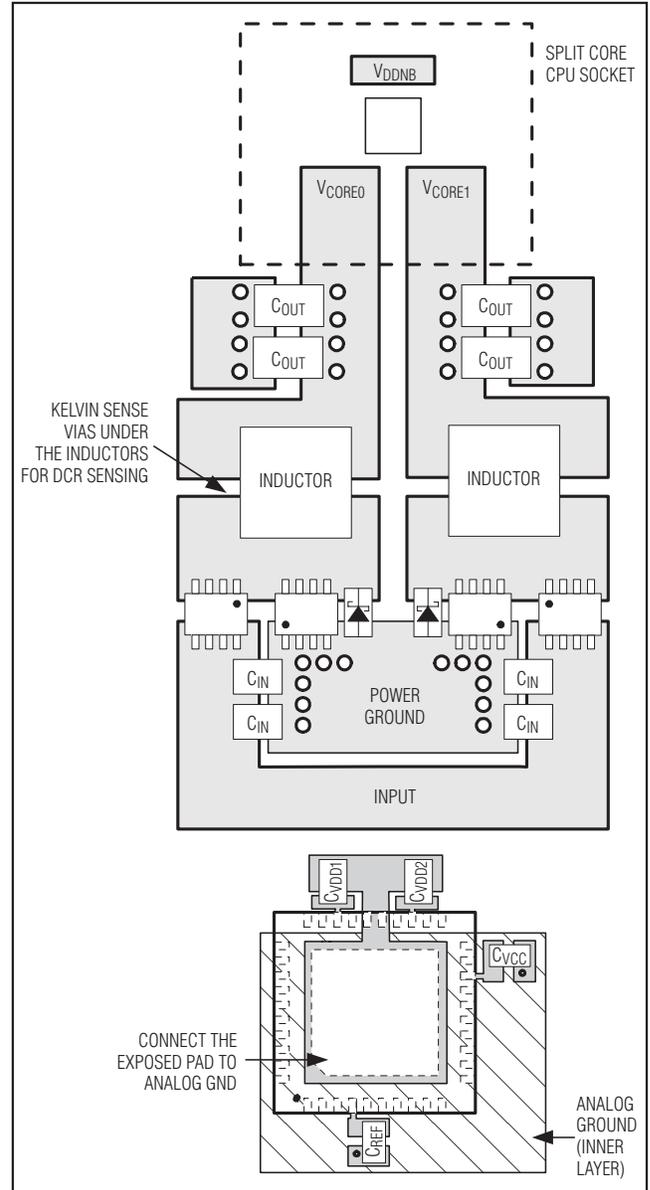

Figure 13. PCB Layout Example
Careful PCB layout is critical to achieve low switching losses and clean, stable operation. The switching power stage requires particular attention (Figure 13). If possible, mount all the power components on the top side of the board with their ground terminals flush against one another, and mount the controller and analog components on the bottom layer so the internal ground layers shield the analog components from any noise generated by the power components. Follow these guidelines for good PCB layout:
- 5) Connect the output power planes (V_{CORE} and system ground planes) directly to the output-filter capacitor positive and negative terminals with multiple vias. Place the entire DC-DC converter circuit as close to the CPU as is practical. Figure 13 is a PCB layout example.